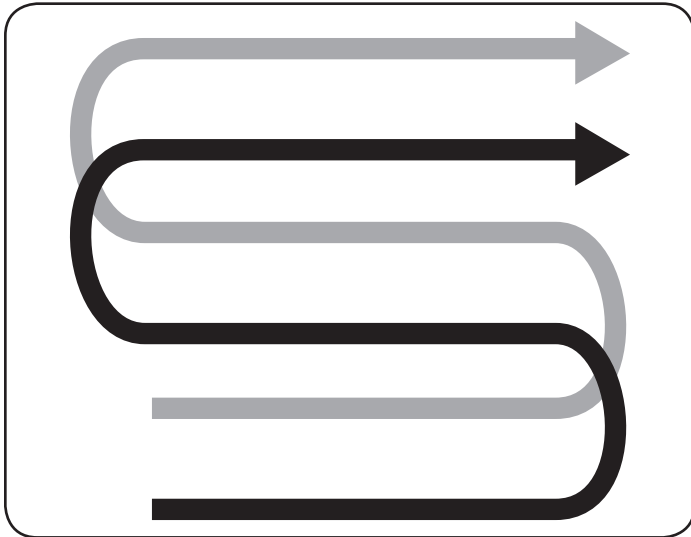

Figure 17
- When preparing a seedbed, go over the same path twice in the first row, then overlap one-half the tiller width on the rest of the passes. See Figure 17.